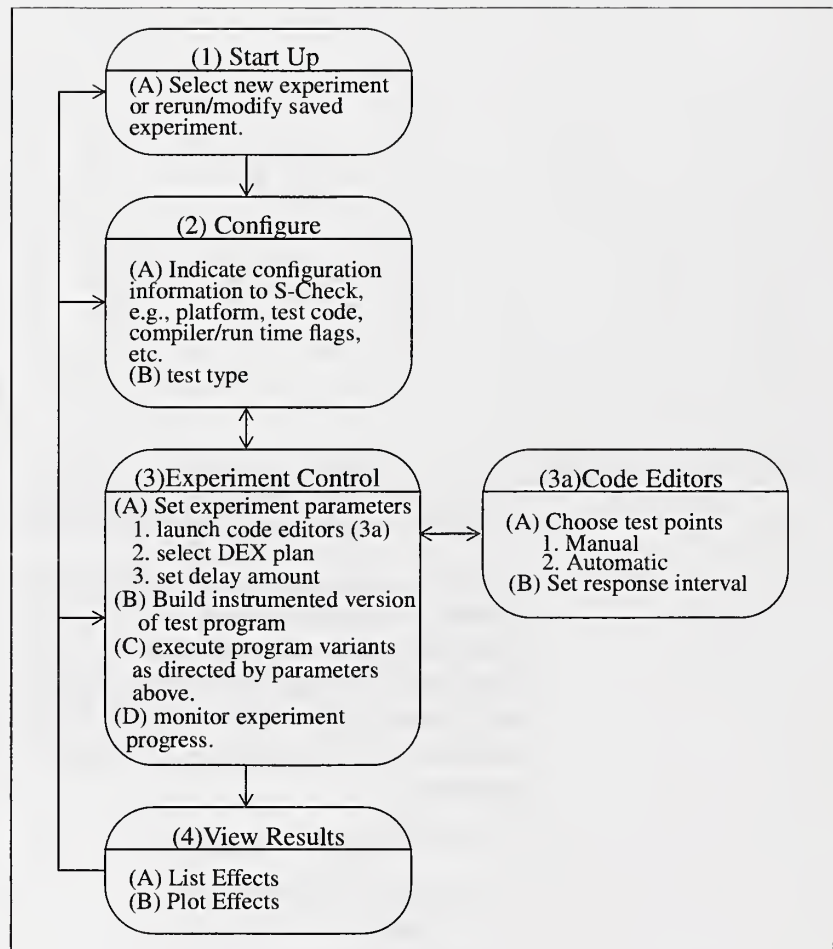

FIGURE 1. S-Check Usage Flow
S-Check assists in or performs each of these steps. Figure 1 shows a skeleton of S-Check's window interface layout. In the first two windows, Start-up (1) and Configure (2), system initializations and test code setup are performed. Experiment setup and control is handled in the Experiment Control